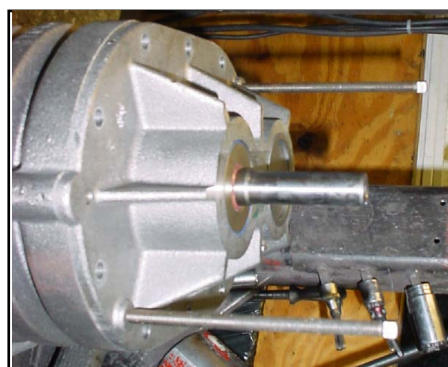

Figure 13 - Removing drive end endplate using Jack Screws (21 series).
11. Remove ten (10) cap screws [15] that secure drive end plate [3] to housing [1].
12. Use a jaw puller or jack screws to remove drive end plate. (Refer to Figure 13 and 14).